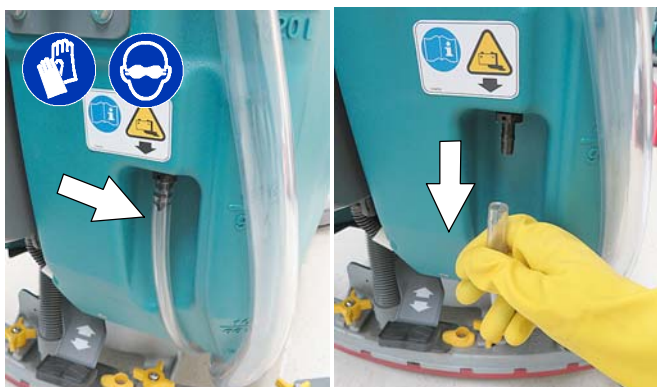

FIG. 136
2. Pull the battery compartment drain hose from hose holder and carefully drain liquid from battery compartment (Figure 136).